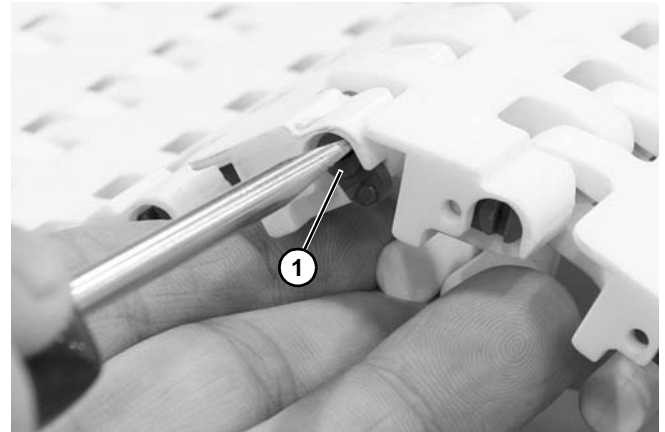

Figure 36
2. Insert a flat blade screwdriver into the slot on the rod head (**Figure 36, item 1**) and rotate the rod head counterclockwise to unlock.